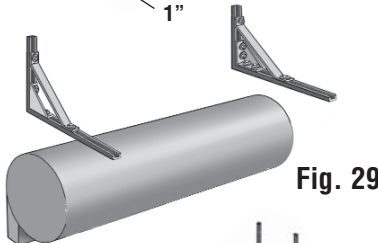

Fig. 29
3. Attach the wall brackets to the wall. If the wall is concrete or cement block, lag screws with anchors should be used. (See Fig. 29)